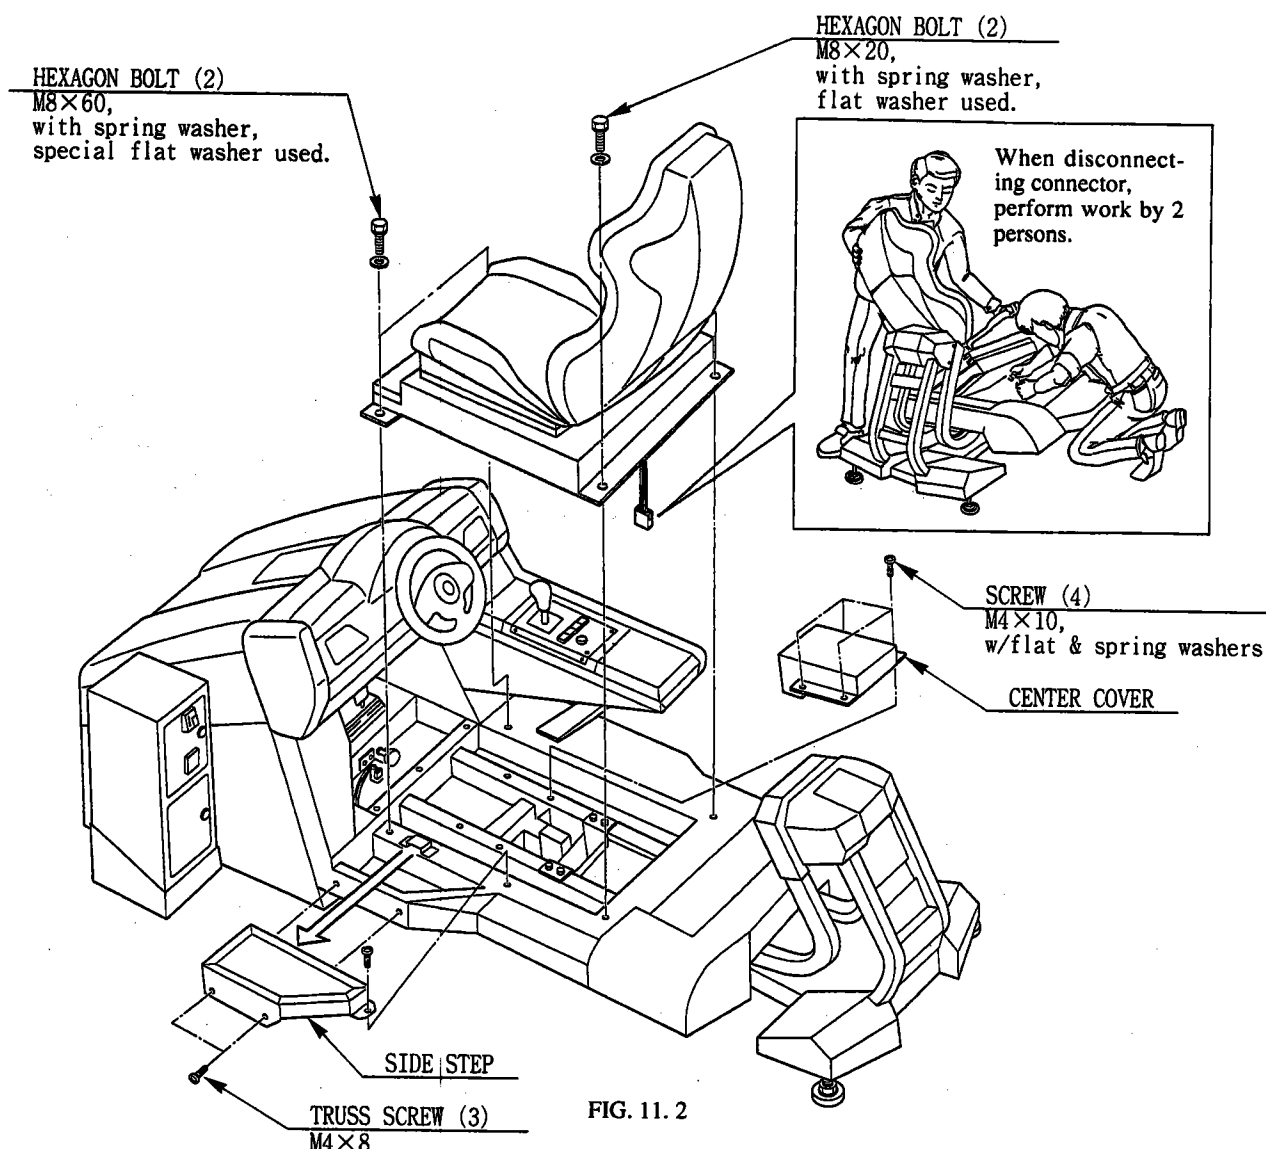

FIG. 11.2
- ① Take out the 3 truss screws and remove the Side Step. (FIG. 11.2)
- ② Remove the 4 Hexagon Bolts which secure the Seat. (FIG. 11.2)